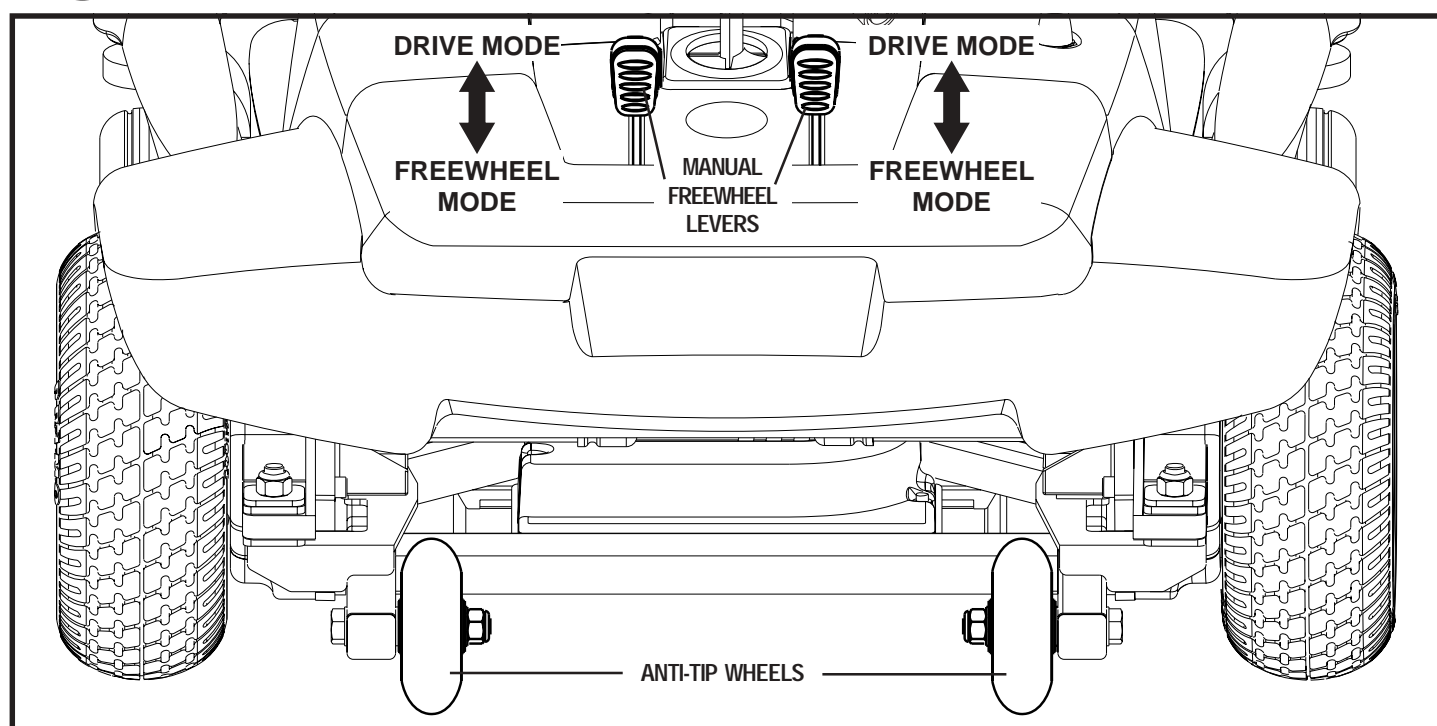

Figure 7. Back of Power Base
1. Locate the levers on the rear section of the power base. See figure 7.
2. Push the two levers forward to engage the drive motors (drive mode). See figure 7
3. Pull the two levers rearward to disengage the drive motors (freewheel mode). See figure 7.
The anti-tip wheels are an integral and important safety feature of your power chair. They are bolted to the frame at the rear of the power base. See figure 7.